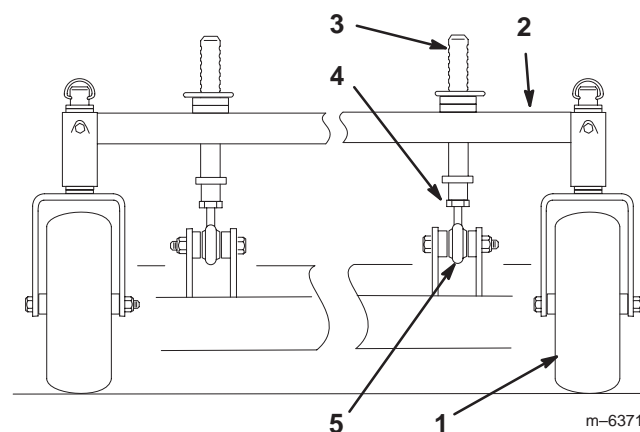

Figure 56
- To change the front-to-rear pitch, the front height-of-cut posts can be adjusted (Fig. 56).
- To raise the front of the deck, loosen jam nut and rotate the front pin clockwise (Fig. 56).
- To lower the front of the deck, loosen jam nut and rotate the front pin counter clockwise (Fig. 56).
- Tighten the jam nuts (Fig. 56).